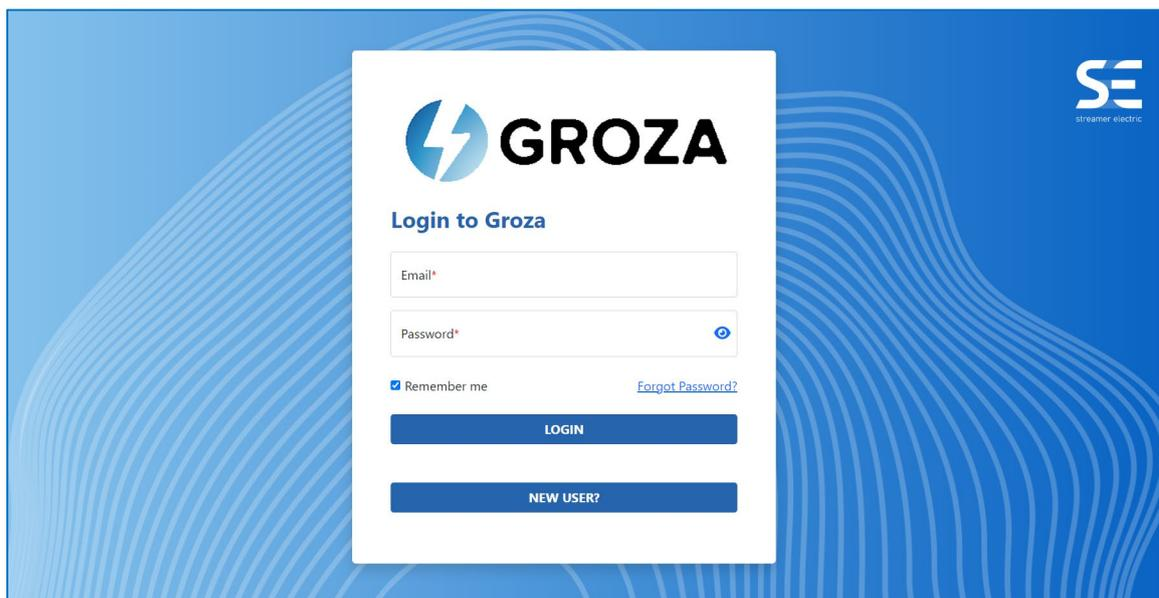

Fig.1
2. Enter E-mail and password (that was used for registration) – fig.1